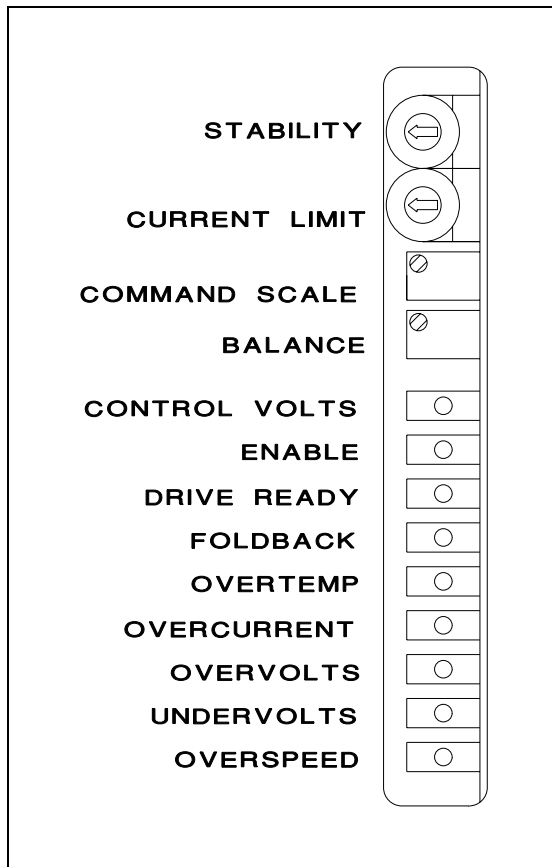

Figure 5.1. BDS4 Status LED's
The status of the BDS4 modules is indicated by three (3) Green and six (6) Red LED's. Refer to Figure 5.1 for the LED configuration. The diagnostic information indicated by these LED's is listed as follows: